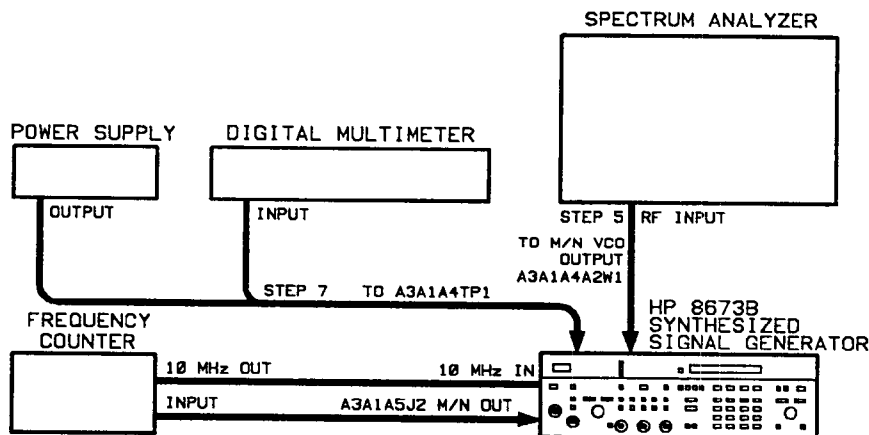

Figure 5-7. M/N Loop Adjustment Test Setup
2. Connect the equipment as shown in figure 5-7.